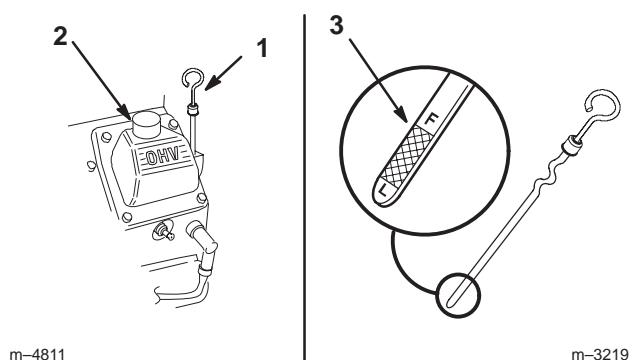

Figure 37
2. Clean around the oil dipstick (Fig. 37) so dirt cannot fall into the filler hole and damage the engine.
3. Pull the oil dipstick and wipe the metal end clean (Fig. 37).
4. Slide the oil dipstick fully into the filler tube. Pull the dipstick out and look at the metal end (Fig. 37). If oil level is low, slowly pour only enough oil into the filler tube to raise the level to the full mark.
5. Slowly pour approximately 80% of the specified oil into the filler cap (Fig. 37). Refer to Servicing the Engine Oil, page 32.